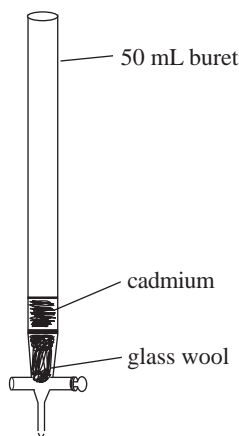

Figure 1: Cadmium reduction column
Nitrates can be measured by a variety of techniques such as the nitrate electrode, ion chromatography, and the method used in this experiment, cadmium reduction. The cadmium reduction technique converts the nitrate ion to nitrite ion by allowing a solution of nitrate ions to pass slowly through a layer of copper-coated cadmium. (See Figure 1.) The reaction is believed to be the following (1):
You will find the copperized reduction column with a small amount of the dilute ammonium chloride-EDTA solution covering the cadmium granules. (See Figure 1.) These granules should always be covered with a solution and kept moist. If allowed to dry, the column may not reduce the nitrate as efficiently. To prepare the column for use, start by filling the buret with the **column conditioning solution** and allow the buret to drain into the 250-mL beaker at a rate of 7 to 10 mL per minute. This solution will be discarded when it has all passed through the column. **Be ready to follow this solution with the standards and sample.** The 7 to 10 mL per minute flow rate will be a rapid drip. Using a 10-mL graduated cylinder, check the flow rate by measuring the volume of solution emitted from the tip of the buret in one minute. Continue to pour the **column conditioning solution** into the buret until all of it is in the buret.